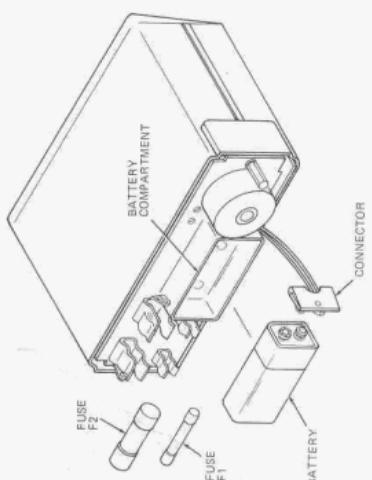

Figure 2-2. Battery and Fuses Replacement
- d. Pull battery (fig. 2-2) with connector from battery compartment.
3. Spacers (2)
4. Lock washers (2)
8. E-rings (2)
- c. Loosen two screws (1) and remove rear cover (2) from case (7).
d. Using a pointed tool such as a probe tip, pry fuse F1 or F2 (fig. 2-2) from fuse clips.